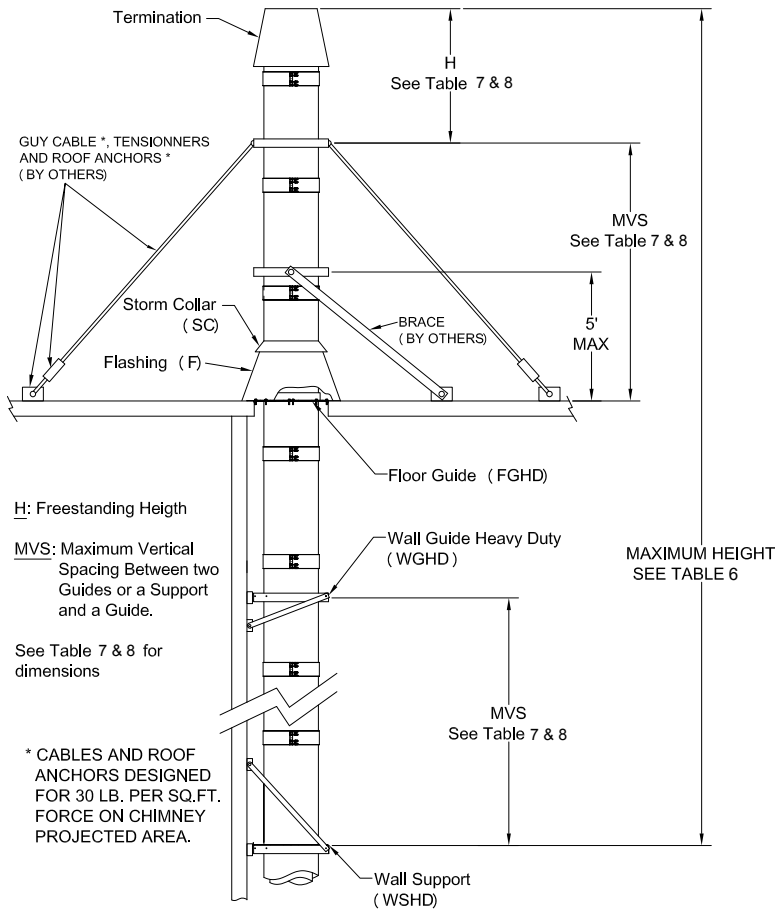

Figure 27 - Height with rigid bracing or guying option for LDCS & LCD
• If Dimension "H" exceeds the value in the Table 7 & 8, use bracing or cable guying to stabilize chimney section above the roof. See Figure 27